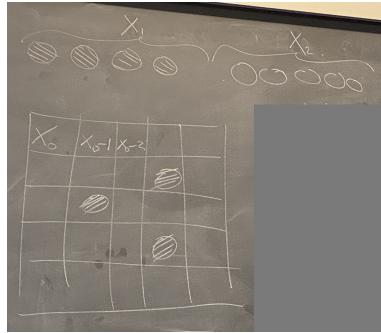

Figure 2.3: Configurations in mean field lattice theory.
- For example, each cell in a square lattice (Figure 2.3) has 4 nearest neighbors: One above, below, right, and left.
- As in Figure 2.3, we have to pick  $N$  adjacent sites.